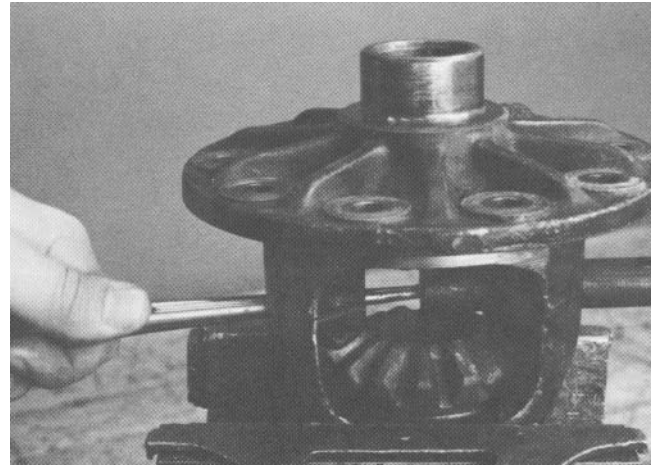

Figure 28
8. While supporting the differential in a vise, drive the pinion mate shaft from the differential with a long drift punch (Fig. 28).